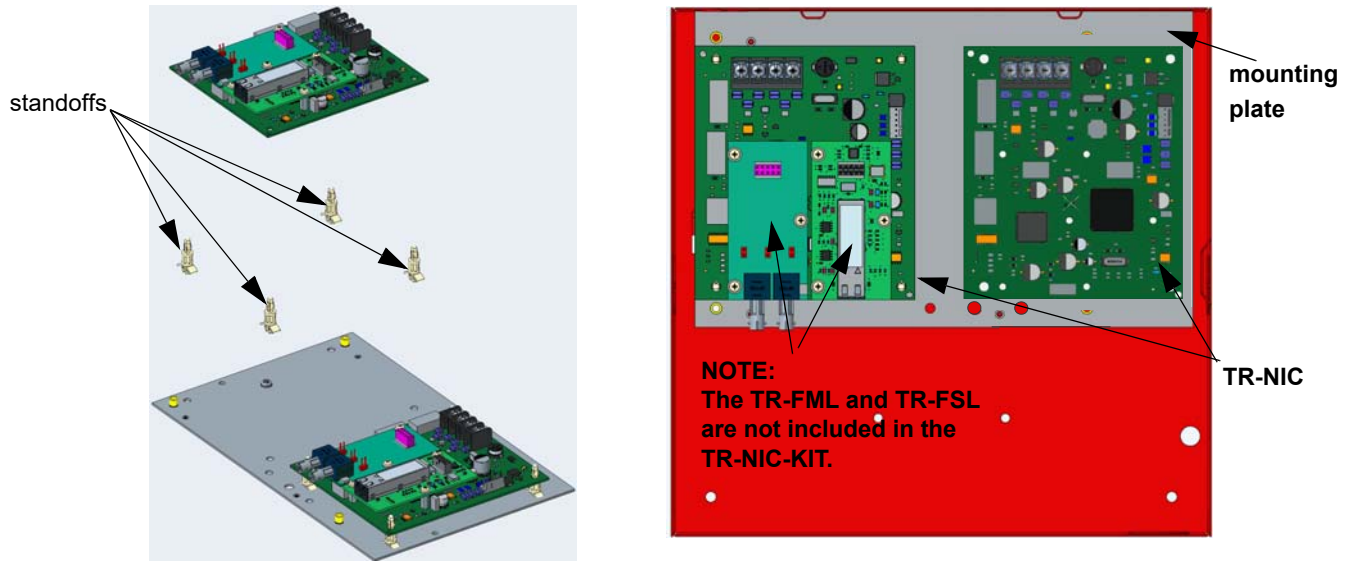

Figure 3 TR-NIC Installation
6. Insert the eight standoffs on the board (included in the package with the cabinet) as shown in Figure 3.
Figure 3 shows the TR-NIC components and installation.